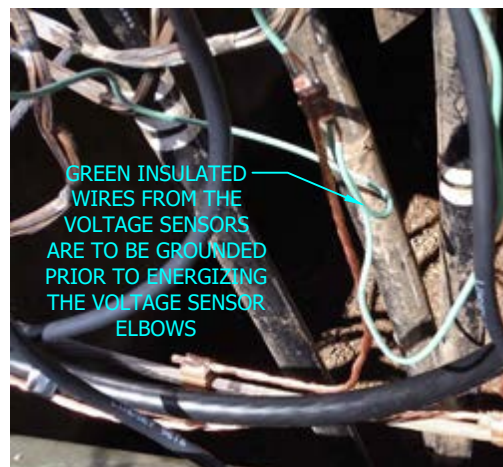

FIGURE 12
P. WARNING: VOLTAGE SENSORS ARE TO BE GROUNDED PRIOR TO ENERGIZING. VOLTAGE SENSOR ARE TO BE CONNECTED TO THE TIE POSITION OF THE SWITCH. IF APPLICABLE USING A FEED THRU DEVICE ON THE P.T. WILL ALLOW FOR THE VOLTAGE SENSOR AND P.T. TO BE CONNECTED TO THE SAME SWITCH POSITION. SEE FIGURE 12.